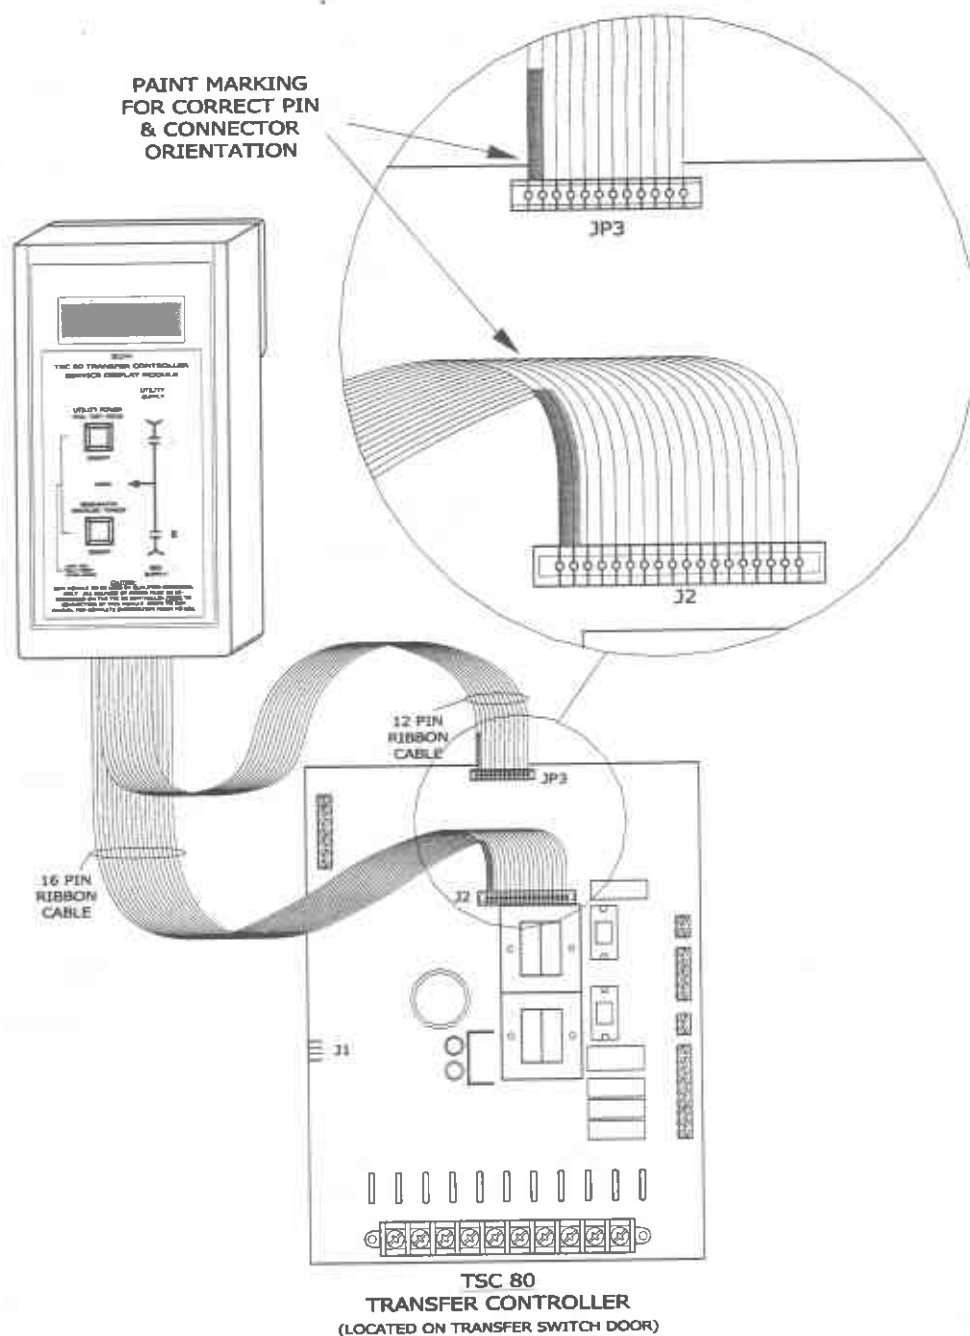

FIGURE 2-SDM/TSC 80 INTERCONNECTION DRAWING
4. Disconnect the Lexan Faceplate interconnection cable to the TSC 80 controller (10 pin connector on JP3). Refer to FIGURE 2 for location of JP3.
- Connect the 12 pin (small) SDM ribbon cable to TSC 80 connector JP3. Refer to FIGURE 2 for location of JP3 and correct orientation. The ribbon cable has a "pink" paint marking which must be on the left hand side of the connection pins when viewed from the front of the circuit board.
- Connect the 16 pin (large) SDM ribbon cable to TSC 80 connector J2. Refer to FIGURE 2 for location of J2 and correct orientation. The ribbon cable has a "pink" paint marking which must be on the left hand side of the connection pins when viewed from the front of the circuit board.
3. Disconnect the 12 pin (small) SDM ribbon cable from the TSC 80 connector JP3. Refer to FIGURE 2 for location of JP3.
5. Disconnect the 16 pin (large) SDM ribbon cable from the TSC 80 connector J2. Refer to FIGURE 2 for location of J2.
- Ribbon cable for 16 pin connector is backwards. Refer to FIGURE 2 for correct orientation.
- Ribbon cable for 12 pin connector is backwards. Refer to FIGURE 2 for correct orientation.